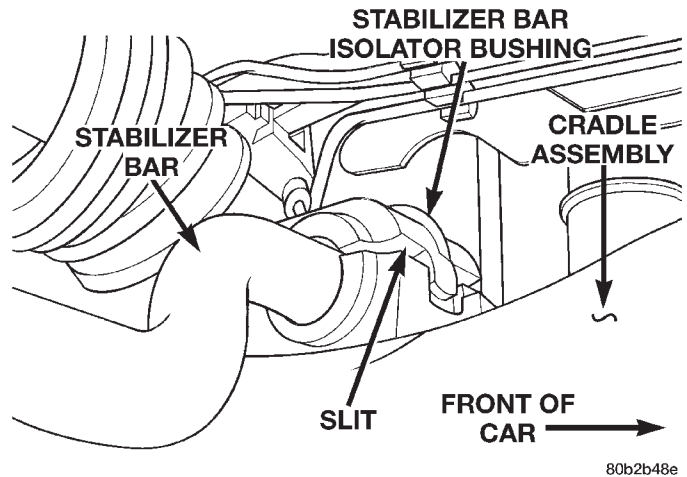

**Fig. 60 Stabilizer Bar Isolator Bushing**
(5) Install stabilizer bar isolator bushings onto stabilizer bar with slits facing forward and flat side facing downward. **The stabilizer bar to cradle assembly bushings must be positioned on the stabilizer bar so the slit in the bushing is positioned toward front of vehicle** (Fig. 60).